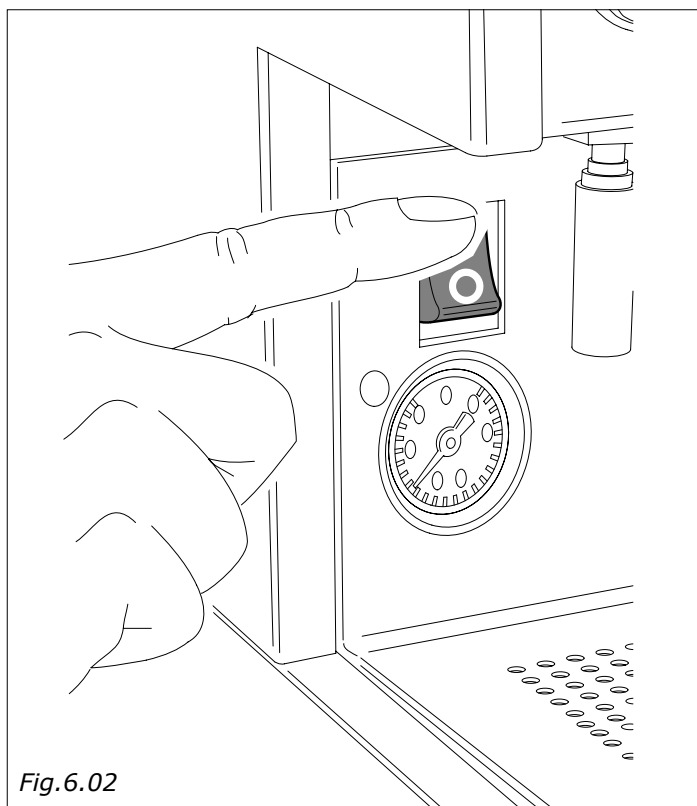

Fig.6.02
- By positioning the main switch (Fig.6.02) on I the switch light will turn on.